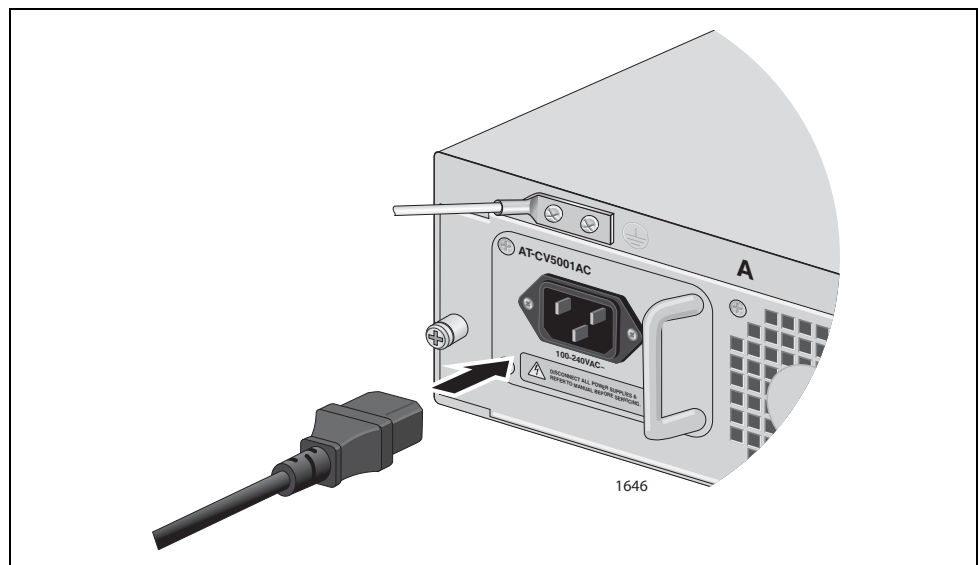

Figure 26. Connecting the AC Power Cord
2. Plug the power cord into the AC power connector on the rear of the chassis, as shown in Figure 26.